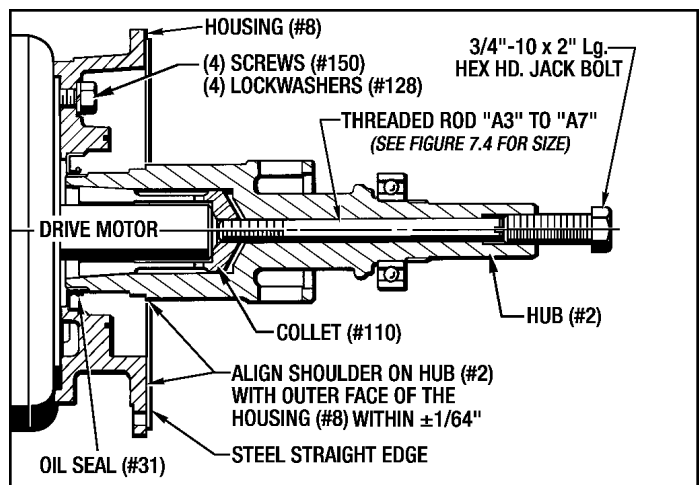

Figure 3.6 - Installing Housing, Collet and Hub to motor
1. Remove the Housing (#8) from the Brake Assembly by removing the (8) Screws (#151) and (8) Lockwashers (#129).
2. Attach this Housing (#8) to the mounting face of the Drive Motor with (4) Screws (#150) and (4) Lockwashers (#128). **Torque to 60 Lb. Ft.** (See Figure 3.6)
3. Place the Collet (#110) on the motor shaft as far as it will go. (See Figure 3.6)
6. Using a steel straight edge, align the 2nd. shoulder of the Hub (#2) with the outer face of End Housing (#8) as shown in Figure 3.6..
7. Install the correct Threaded Rod "A" into the Collet (#110) approx. 4 or 5 turns. **Hand tighten** the Jack Bolt into the end of the Hub (#2) just until it makes contact with the Threaded Rod "A". **Do not tighten any further.** (See Figure 3-6.)
8. Remove the End Housing (#9) from the Piston Housing (#10) by taking out the (8) Screws (#72) and (8) Lockwashers (#127).
11. Attach the complete Piston Housing Assembly to the Housing (#8) with the (8) Screws (#151) and (8) Lockwashers (#129). **Torque to 25 Lb. Ft.**